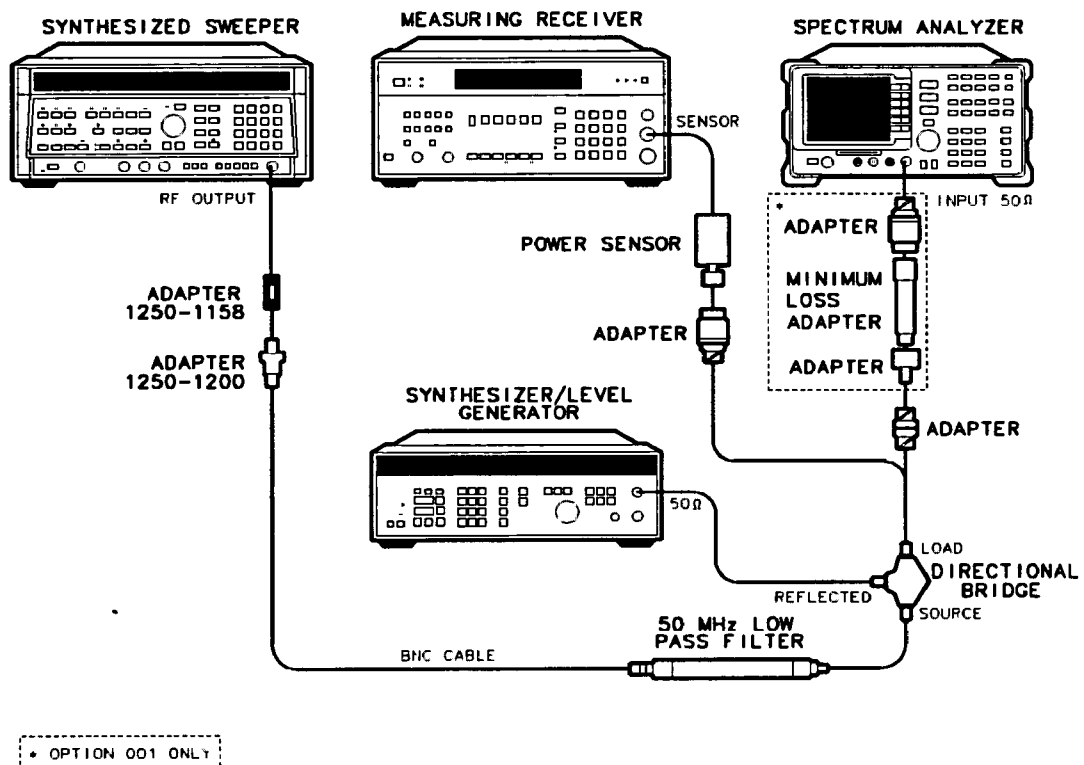

Figure 3-10. Third Order Intermodulation Distortion Test Setup
2. Connect the equipment as shown in Figure 3-10 with the output of the directional bridge connected to the power sensor.